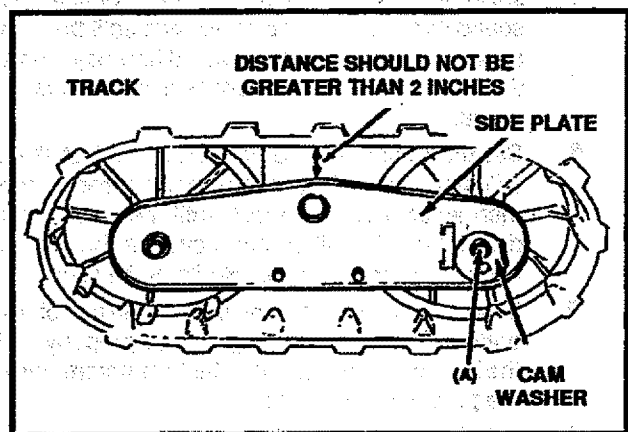

FIG. 38
- Loosen the bolts (A) (See Fig. 38) on both sides of the track assembly.